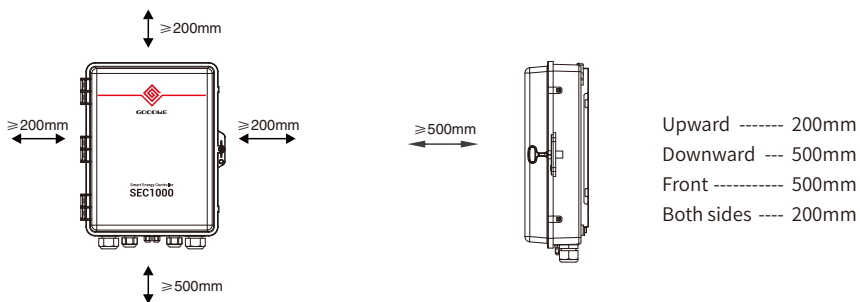

Figure3.3.1-2
- The SEC1000 must be installed vertical or with a backward tilt less 15°.No sideways tilt is allowed.The connection area must point downwards.Refer to Figure 3.3.1-1.
- To allow dissipation of heat,and for convenience of dismantling,clearances around the SEC1000 must be no less than the values, refer to figure3.3.1-2